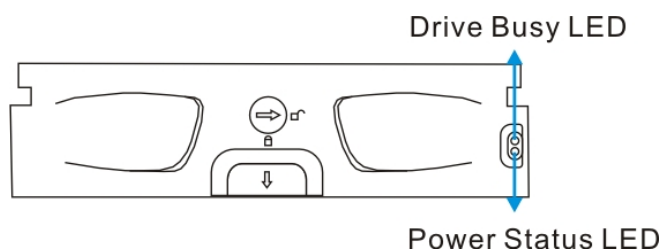

Figure 4-4: Drive Tray LEDs
Two (2) LED indicators are located on the right side of each drive tray. (See *Figure 4-4*) Refer to *Table 4-3* for the LED definitions. When notified by a drive failure message, you should check the drive tray indicators to find the correct location of the failed drive. Replacing the wrong drive can fatally fail a logical array.